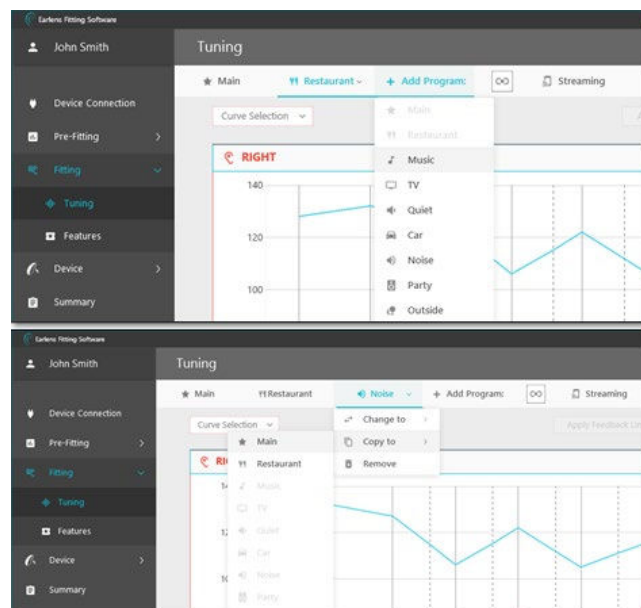

Figure 41: Add or copy programs
- Programs can be swapped and copied from one to another using the 'Copy to' option in the drop-down menu for each program slot. (Figure 41).